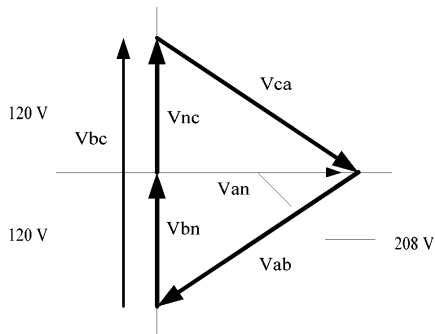

Fig 1.5: Phasor Diagram Showing Three-phase, Four-wire Delta Connected System
- Another common delta connection is the four-wire, grounded delta used for lighting loads. In this connection the center point of one winding is grounded. On a 120/240 volt, four-wire, grounded delta service the phase-to-ground voltage would be 120 volts on two phases and 208 volts on the third phase. Figure 1.5 shows the phasor diagram for the voltages in a three-phase, four-wire delta system.